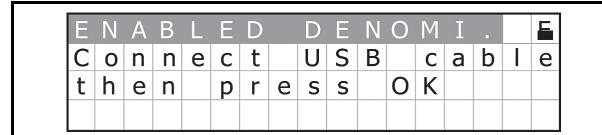

Figure 25 Standby Screen 1
3. Ensure that the LCD Display shows the Standby Screen shown in Figure 25.